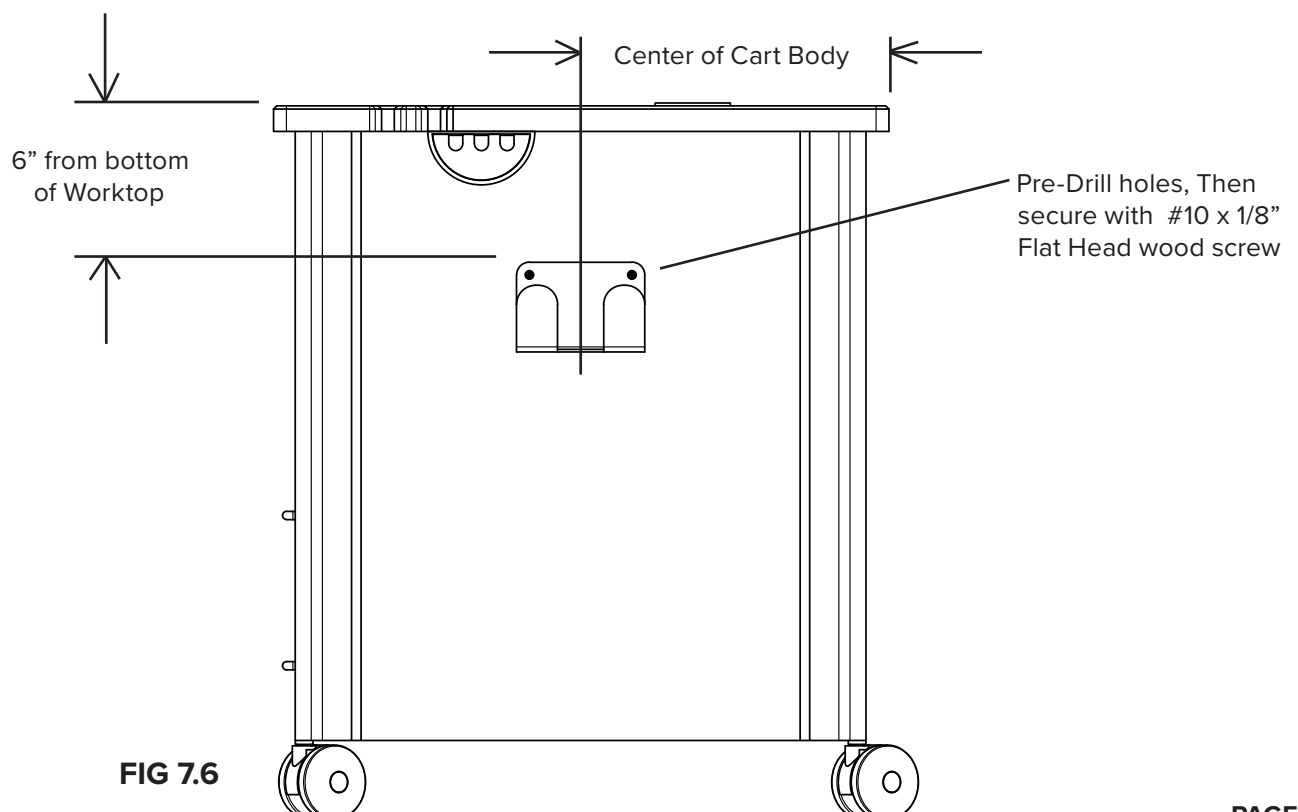

FIG 7.6
- 4.) If you purchased a Foot Pedal Holder, secure it as shown in Fig. 7.6